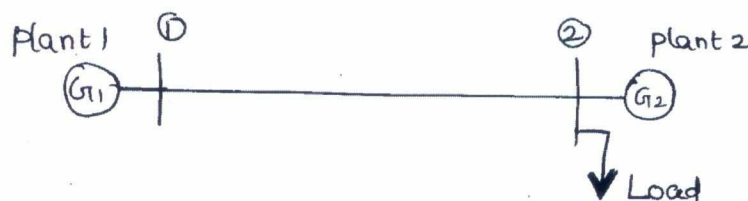

Fig.Q5(b)
- b. A two bus system is shown in Fig. Q5(b). If 100 MW is transmitted from plant 1 to the load, a transmission loss of 10 MW is incurred. Find the required generation for each plant and the power received by load when the system λ is Rs. 25/ Mwhr. The incremental fuel costs of the two plants are given below :